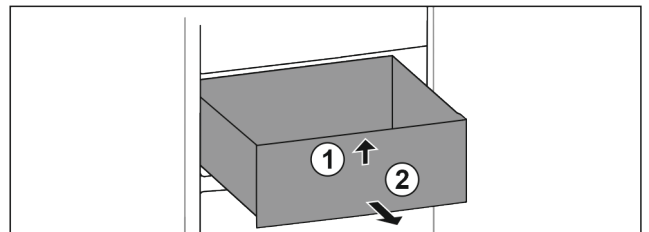

Fig. 133
- Lift up drawer at the front. Fig. 133 (1)
- Remove drawer to the front. Fig. 133 (2)